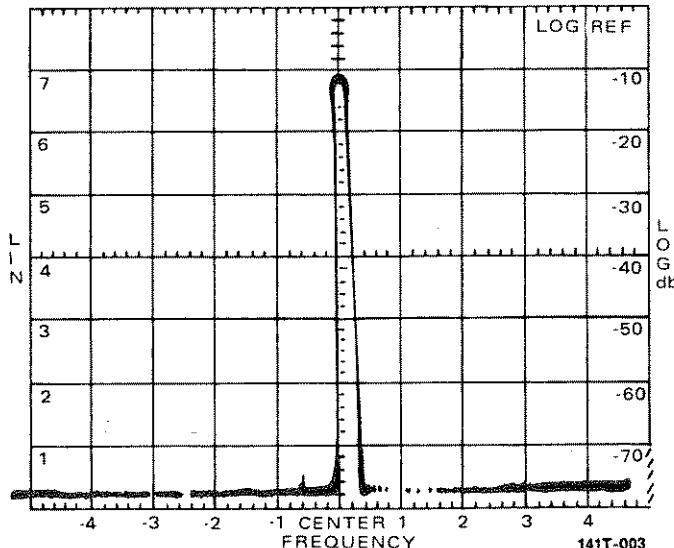

Figure 5-1A. Spectrum Analyzer Intensity Limit Adjust
- i. Turn A2R65 slowly cw until crest of trace is bright with rest of trace barely visible as shown in figure 5-1A.